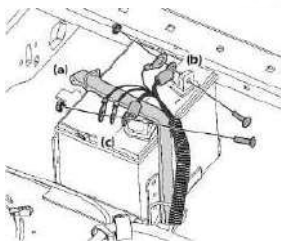

Figure 4-5
- Unhook the strap (a) holding the battery in place. See Figure 4-5.
- Remove the hex cap screw and sems nut securing the negative cable grouping (b) to the negative battery post (marked NEG). Move the cable grouping away from the negative battery post. See Figure 4-5.
- Remove the hex cap screw and sems nut securing the positive cable grouping (c) to the positive battery post (marked POS). See Figure 4-5.